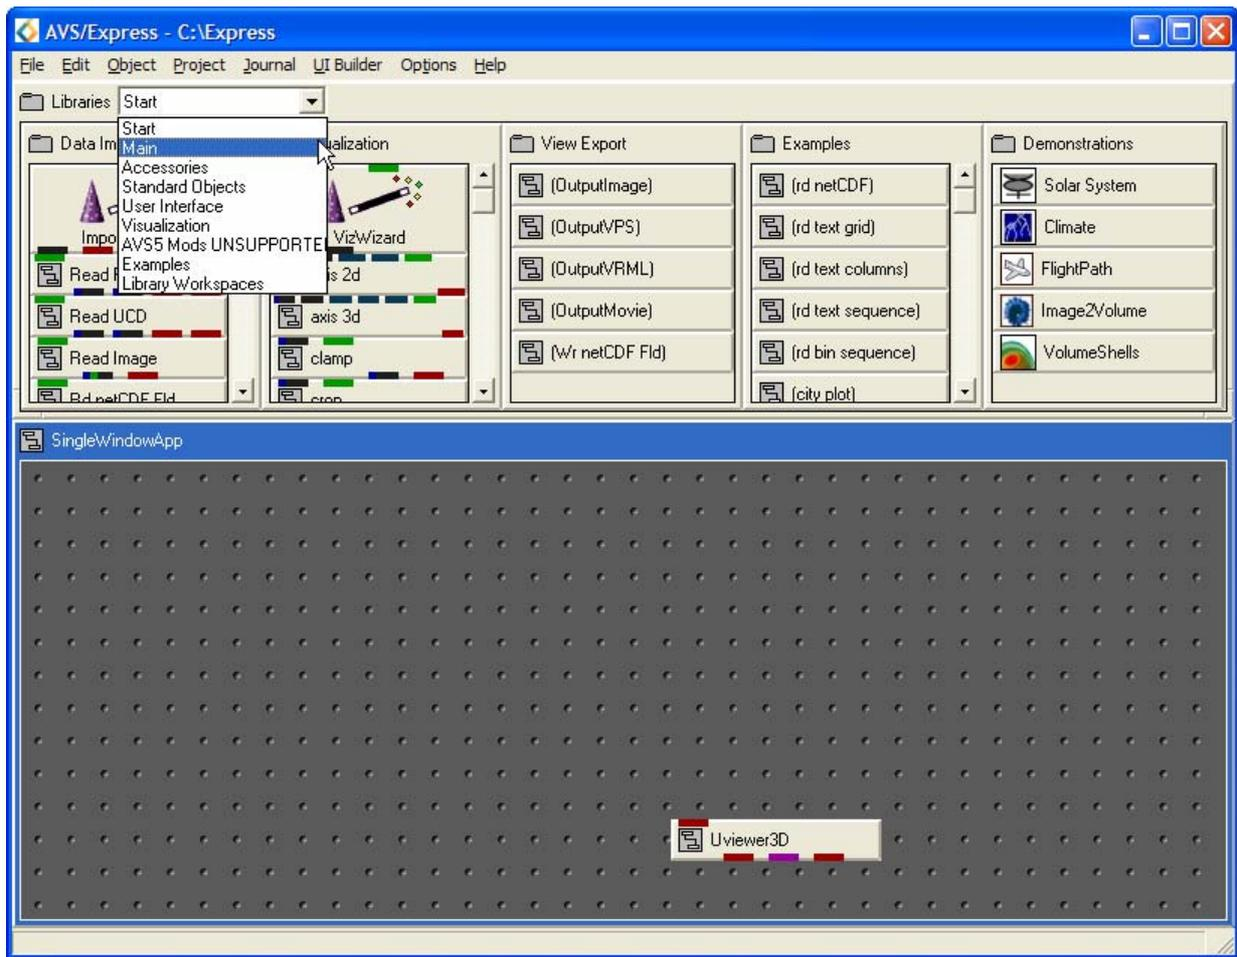

Figure 2.4: Libraries Drop down Menu
- Select **Main** from the **Libraries** drop down menu in order to display the modules required for this exercise (Figure 2.4).